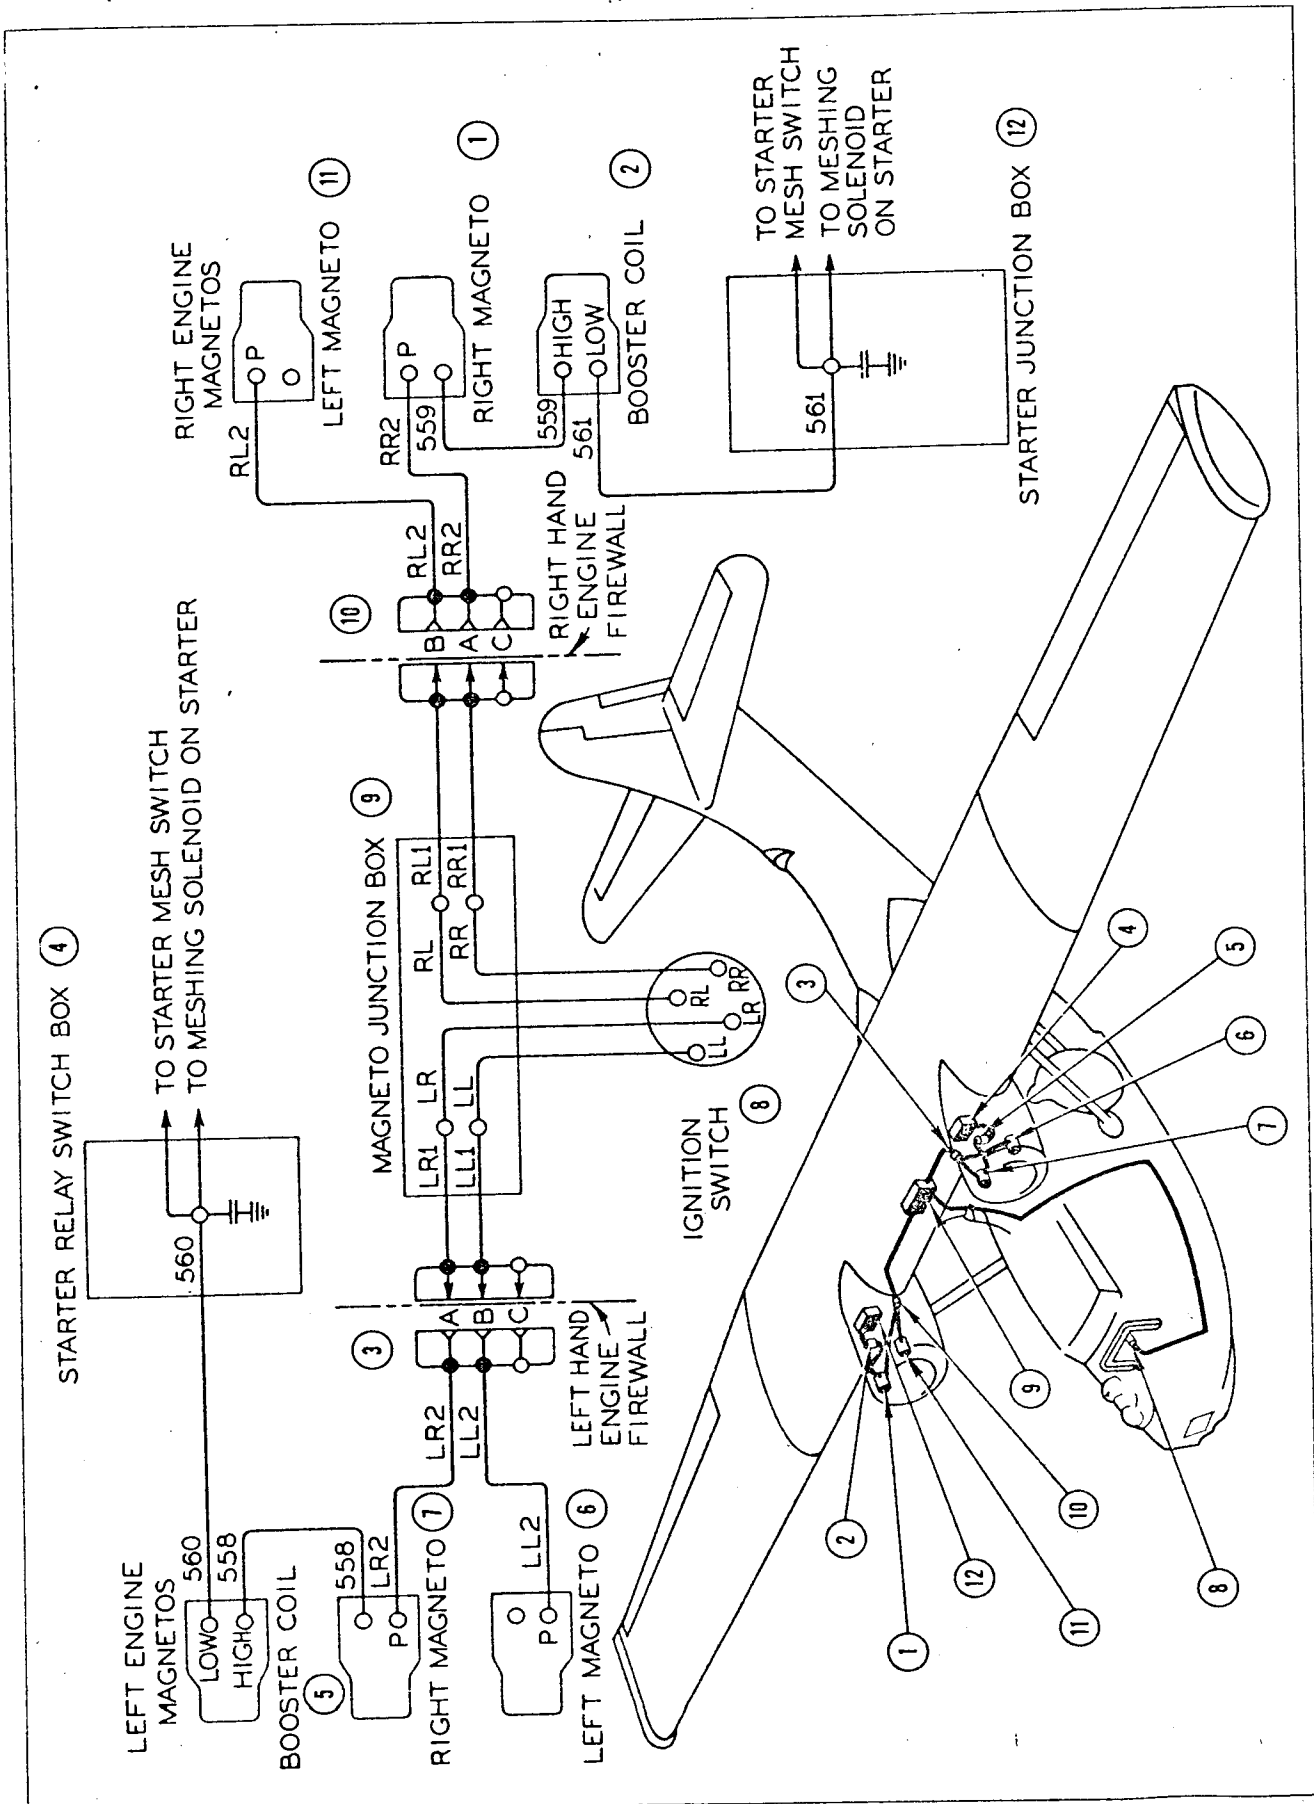

Figure 226—Ignition Circuit
(1) DESCRIPTION. (See figure 226.)—This circuit provides control of the voltage to the engines by grounding the magnetos on each engine when they are not in use and automatically connecting the booster coils into the circuit when starting.